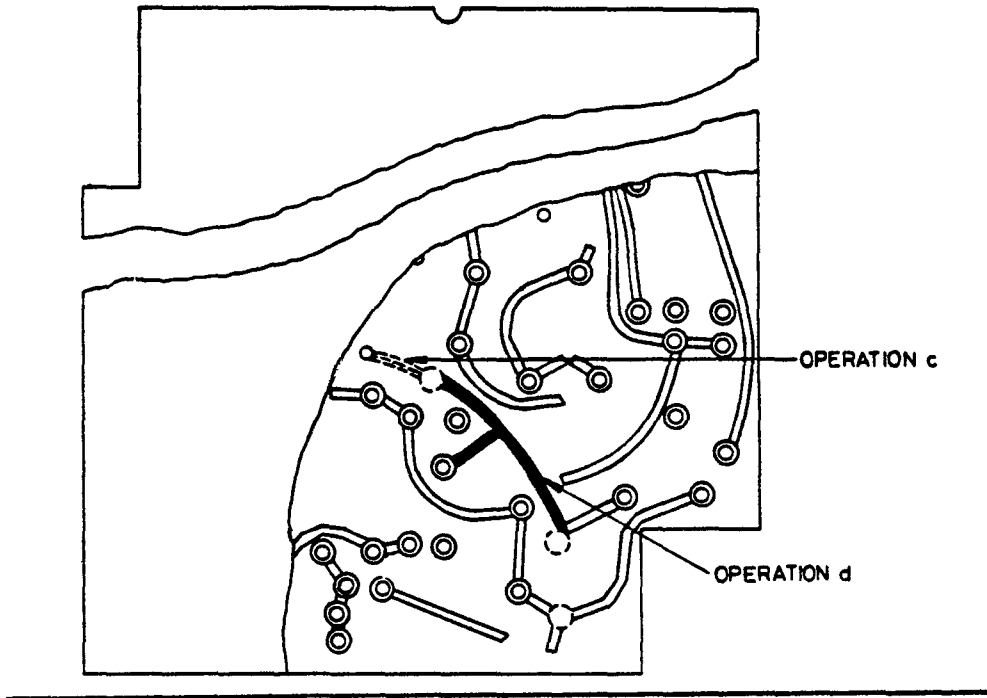

Fig 1 - Operation c. and d.
- c. Locate, unsolder and remove the link wire as indicated in Fig 1.
- d. Using a sharp knife remove the printed circuit track as indicated in Fig 1, taking care not to damage any neighbouring printed circuit track. Apply a thin coat of insulating varnish to the board whence the track was removed.